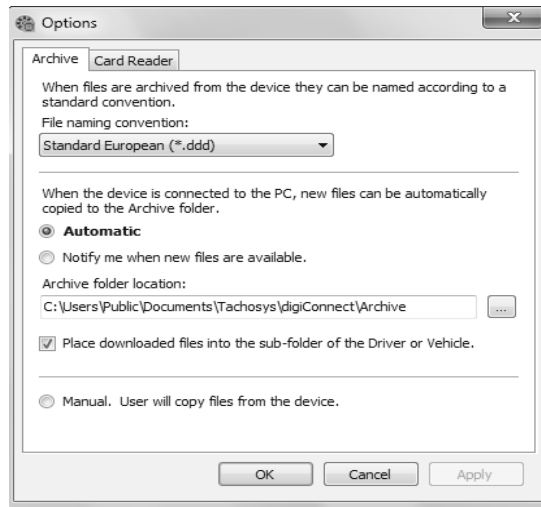

Fig 9.
You may change the Driver Card and Vehicle Unit file naming conventions to suit your country or analysis software. Simply select the most appropriate option from the drop down menu in software options (see Fig 9.).
1. Select the Archive tab at the top of the pop up window (see Fig 9.).